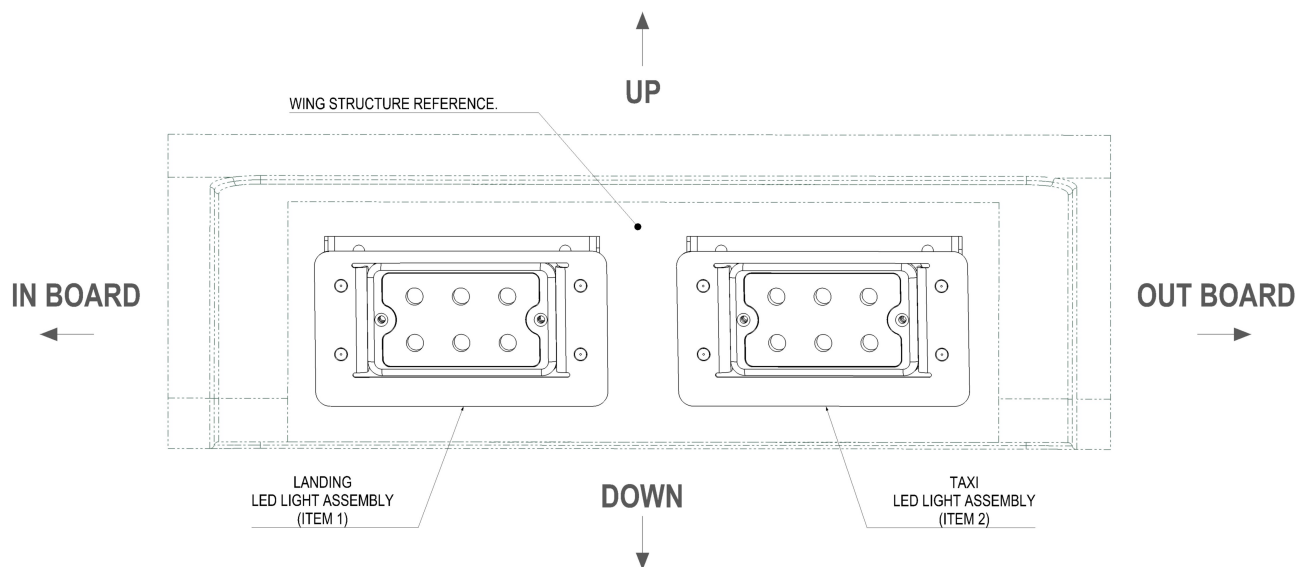

Figure 3. New LED lights location.
A. Hold the landing light assy (Item 1) in position at the leading edge of the left wing and connect the electrical connector P3340-10 to the wing electrical connector J3340-10. Refer to Figures 3 for location, and 4 for identification markings.
- A. Hold the taxi light assy (Item 2) in position at the leading edge of the left wing and connect the electrical connector P3340-11 to the wing electrical connector J3340-11. Refer to Figure 3 for location, and 4 for identification markings.